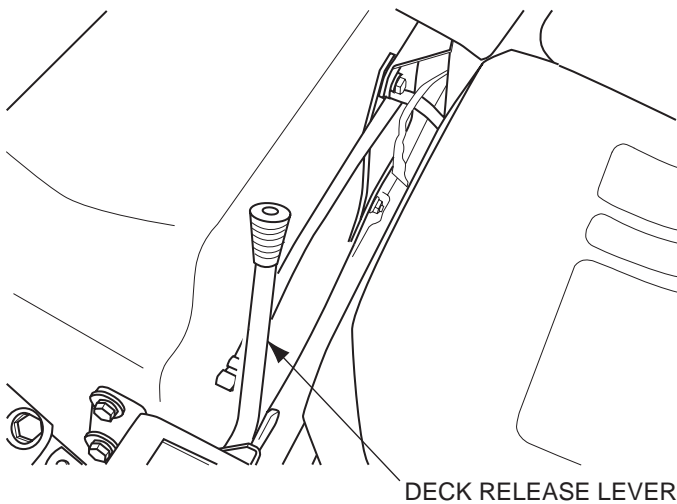
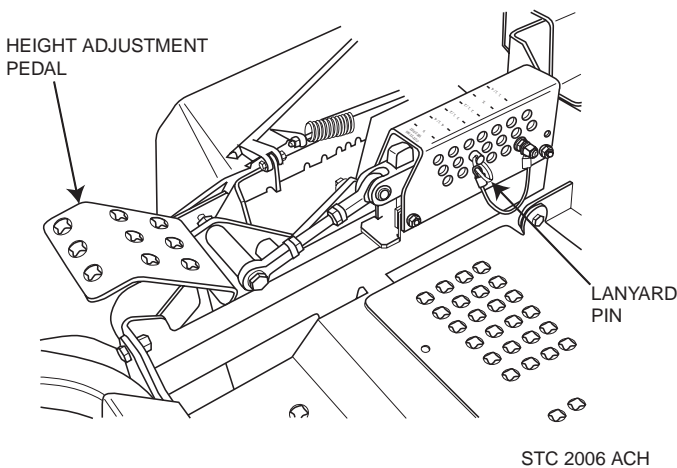

Figure 4-4 Deck Release Lever
Figure 4-5 Adjusting Cutting Height
2. Push the cutting height adjustment foot pedal all the way forward using your right foot until it locks in place. (Figure 4-5, page 18)
3. Insert the lanyard pin into the cutting height index at the desired cutting height. Push forward on the deck lift foot lever, hold in place and pull back on the deck release lever, (Figure 4-4). Slowly release the foot pedal. A deck height decal is located on the cutting height index as an aid in adjusting the deck to the desired height. (Figure 4-5)